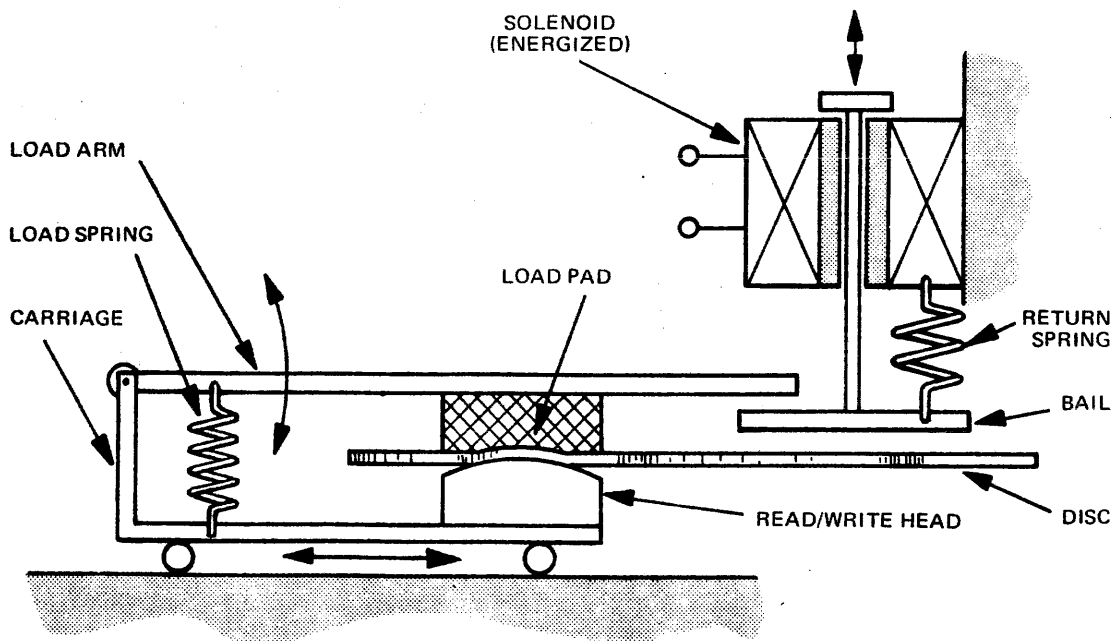

Figure 2. Head Load Mechanical Assembly
The read/write head is mounted on a carriage that is moved by the lead screw. As shown in Figure 2, head load is achieved when the disc is lightly loaded against the rigidly mounted head by moving a load pad against the disc with a solenoid actuated bail. Head to disc compliance is achieved by restraining the disc between the head and the load pad.
**HEAD LOAD ACTUATOR** Energizes the solenoid shown in Figure 2. It is a function of LOAD HEAD .